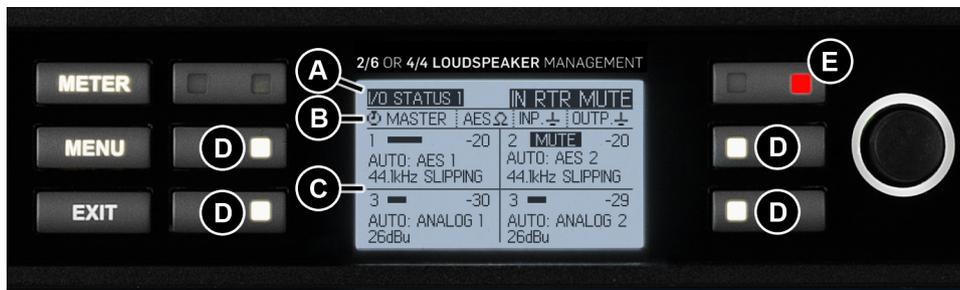

Figure 6-10: Meter Mode > I/O Status View
Pressing the METER button from Home View (once in Contour Mode, twice in Mesa Mode) results in the I/O Status View being displayed, similar to that shown in Figure 6-10. There are two pages to this screen; press the meter button again to display page two. Page one displays the selected input status and metering information for input routers 1-4, page two displays input routers 5-8.
- If an Input Router is muted, the top-right LED is illuminated red as shown in Figure 6-10, and the frame fault text in section A of the screen will display INPUT MUTE. The fault and warning LED illuminates red or yellow in all Meter and Menu Views as described in section 6.7.2 and section 8.1.
- D** These buttons allow muting/unmuting of the associated device input router. Confirmation of each input router's mute status is displayed on the LCD next to the associated button as shown for input 2 in Figure 6-10. To view inputs 5-8 (I/O Status 2) press the METER button, or turn the rotary encoder clockwise.